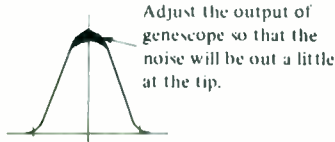
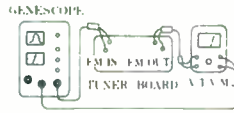
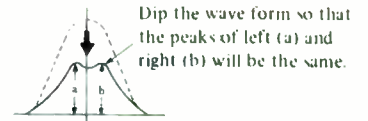

Fig. 5
Fig. 6
Fig. 7
(1) At the article 1 - (2). By the core of T101, T102, T103 and T105 let it be adjusted so that the gain will be max. And the wave form should be adjusted so that it will be the one of the Fig.5. In this case, the output voltage at the surveying point of TP.2 is weak, so let it be adjusted by connecting shown at Fig. 6. using V.T.V.M. Next, adjust it by T109 core, so that the wave form of Fig.5 will dip just as Fig.7 and at this time of adjustment stop the oscillation. (Oscillation variable capacitor is shorted.)